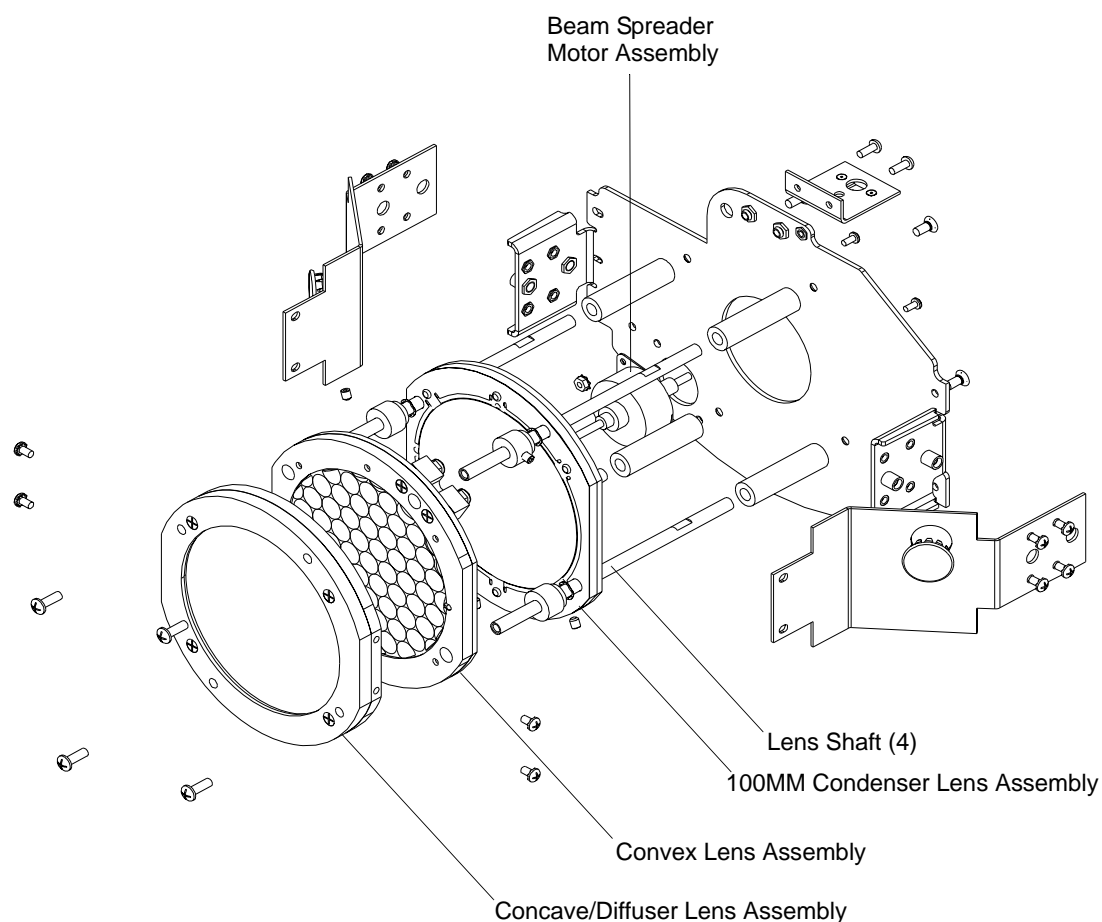

Figure 2-10: Convex Lens Assembly Replacement
- Step 3. Using 1/4" nutdriver, remove one 4-40 KEPS nut on end of beam spreader motor assembly shaft (see Figure 2-10).